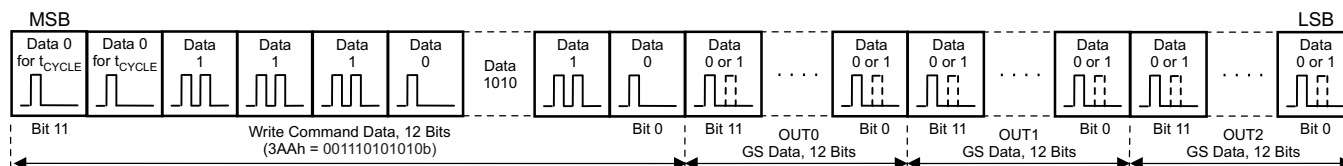
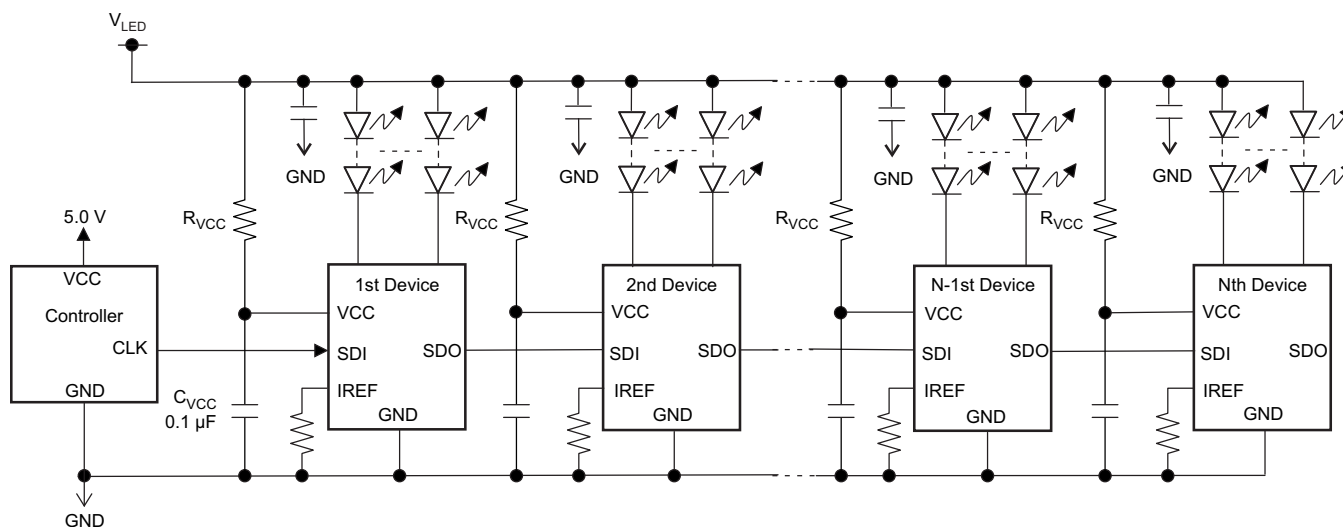

Figure 18. 48-Bit Data Packet Configuration for One TLC5973
Figure 19. Cascade Connection of N TLC5973 Units (Internal Shunt Regulator Mode)
The 12-bit write command and 36-bit grayscale (GS) data for OUT0 to OUT2 (for a total of 48 bits of data) must be written to the device. Figure 18 shows the 48-bit data packet configuration. When multiple devices are cascaded (as shown in Figure 19), N times the packet must be written into each TLC5973 in order to control all devices. There is no limit on how many devices can be cascaded, as long as proper VCC voltage is supplied. The packet for all devices must be written again whenever any GS data changes.